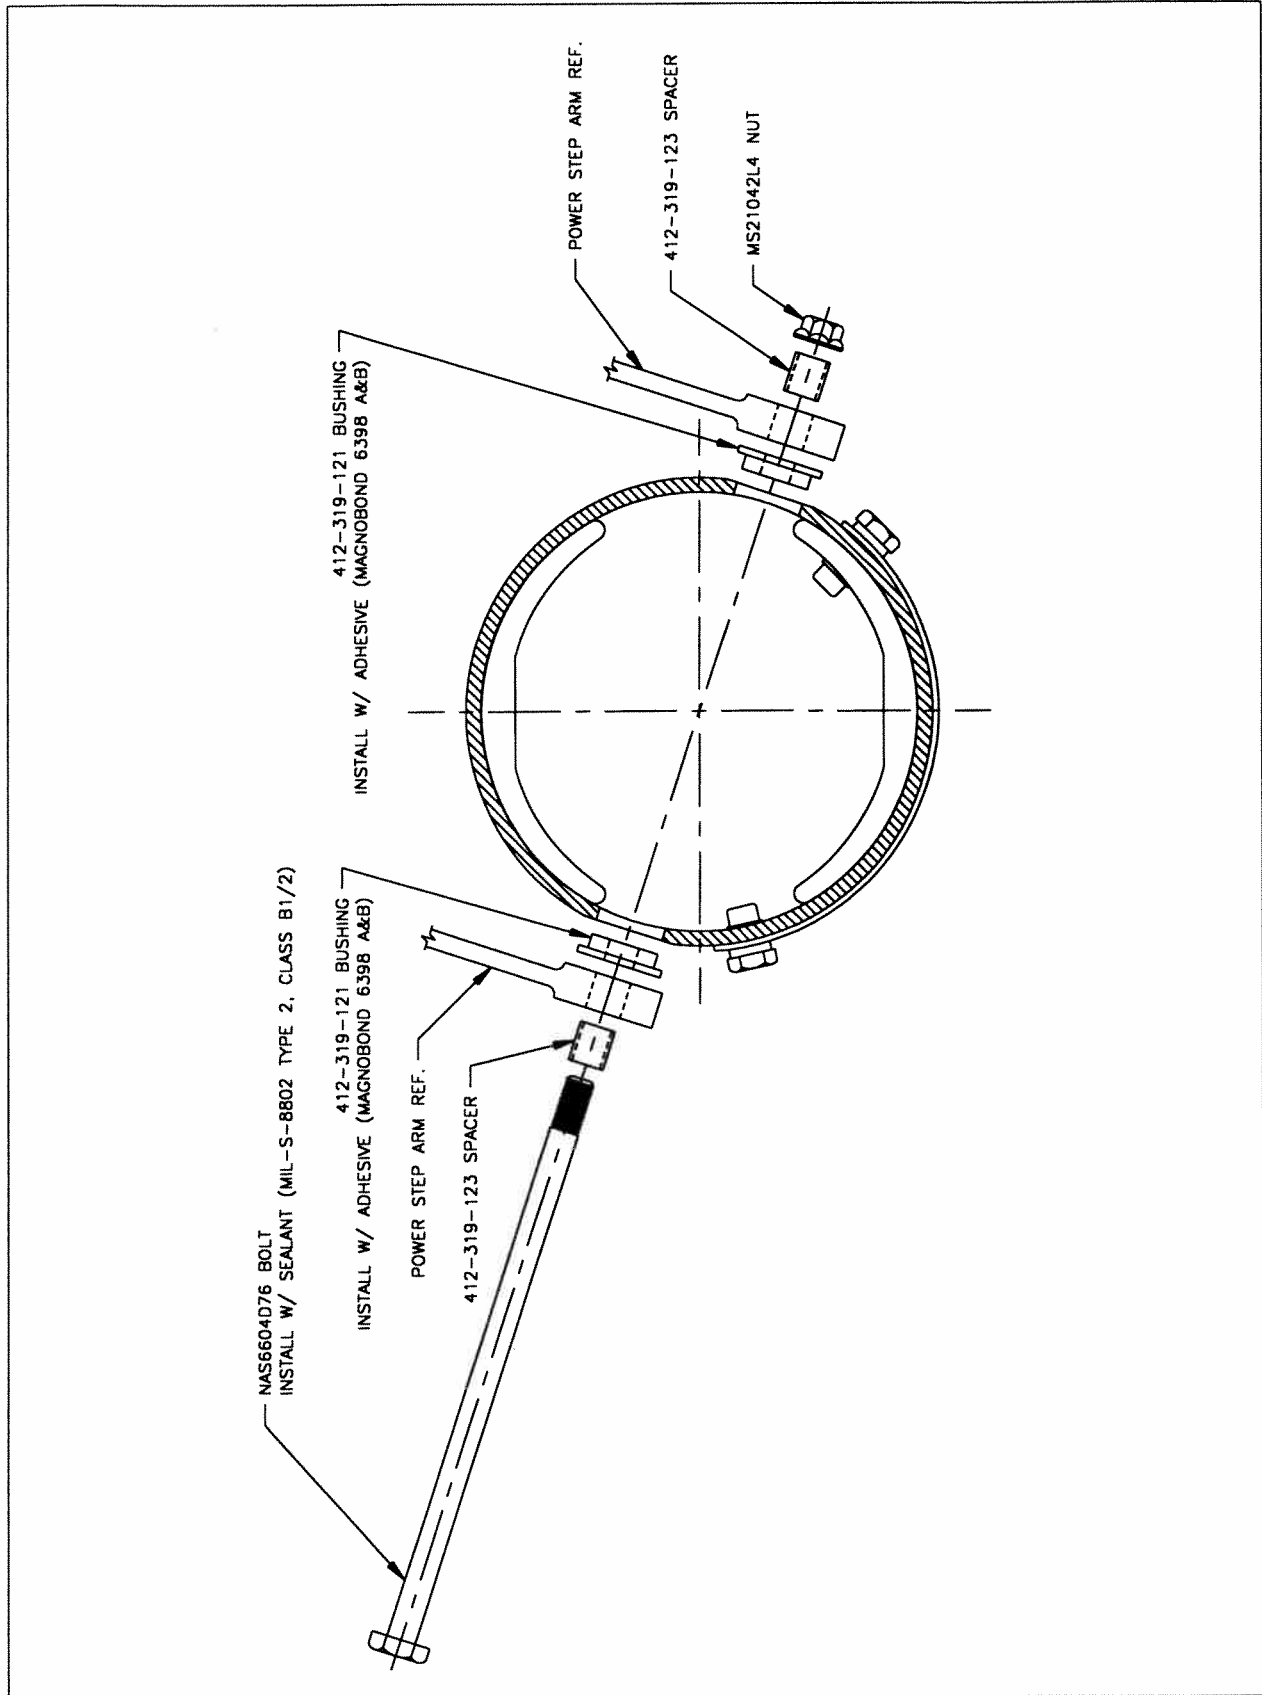

Figure 2
- Re-install the Power Step Kit legs as shown in Figure 2. Torque bolt to 15-20 in-lbs.